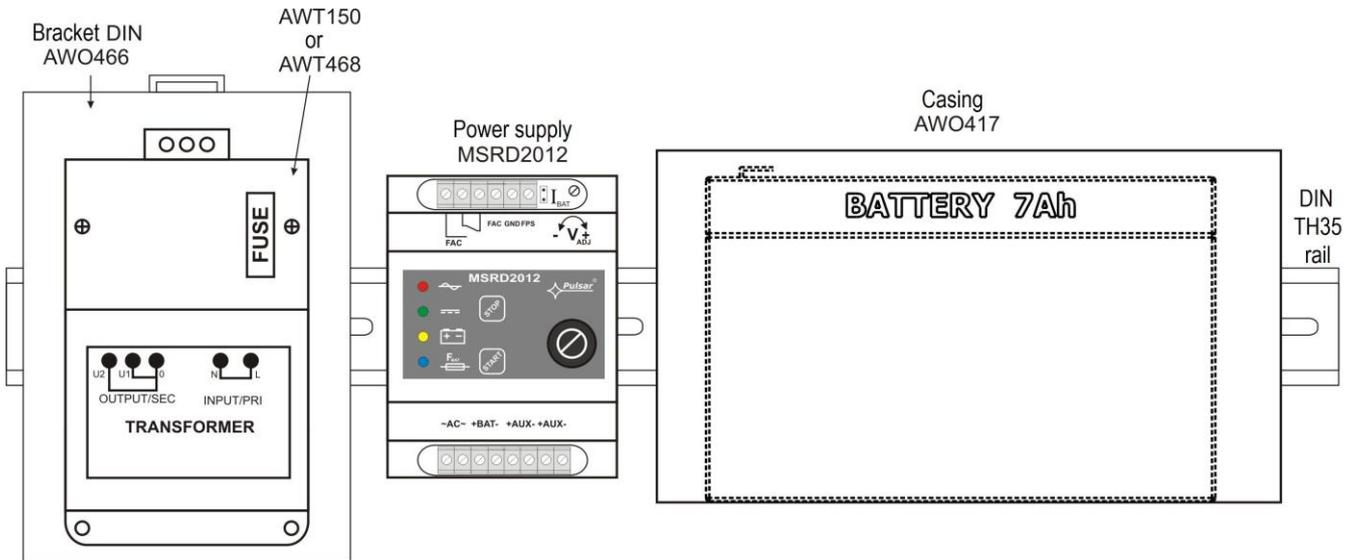

Fig.3. Additional accessories.
2. Install the PSU module on the DIN rail: Mount the module onto the rail and block with a clip (Fig. 3)